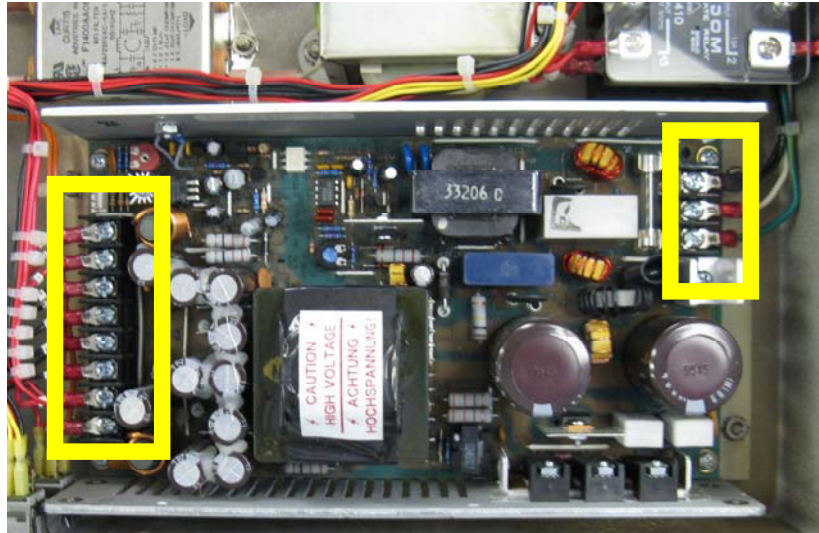

Figure 3
- Using a #2 Phillips screwdriver remove the (8) terminal connections on one side of the Power Supply and the (3) terminal connections on the other side of the Power Supply. Fig 3